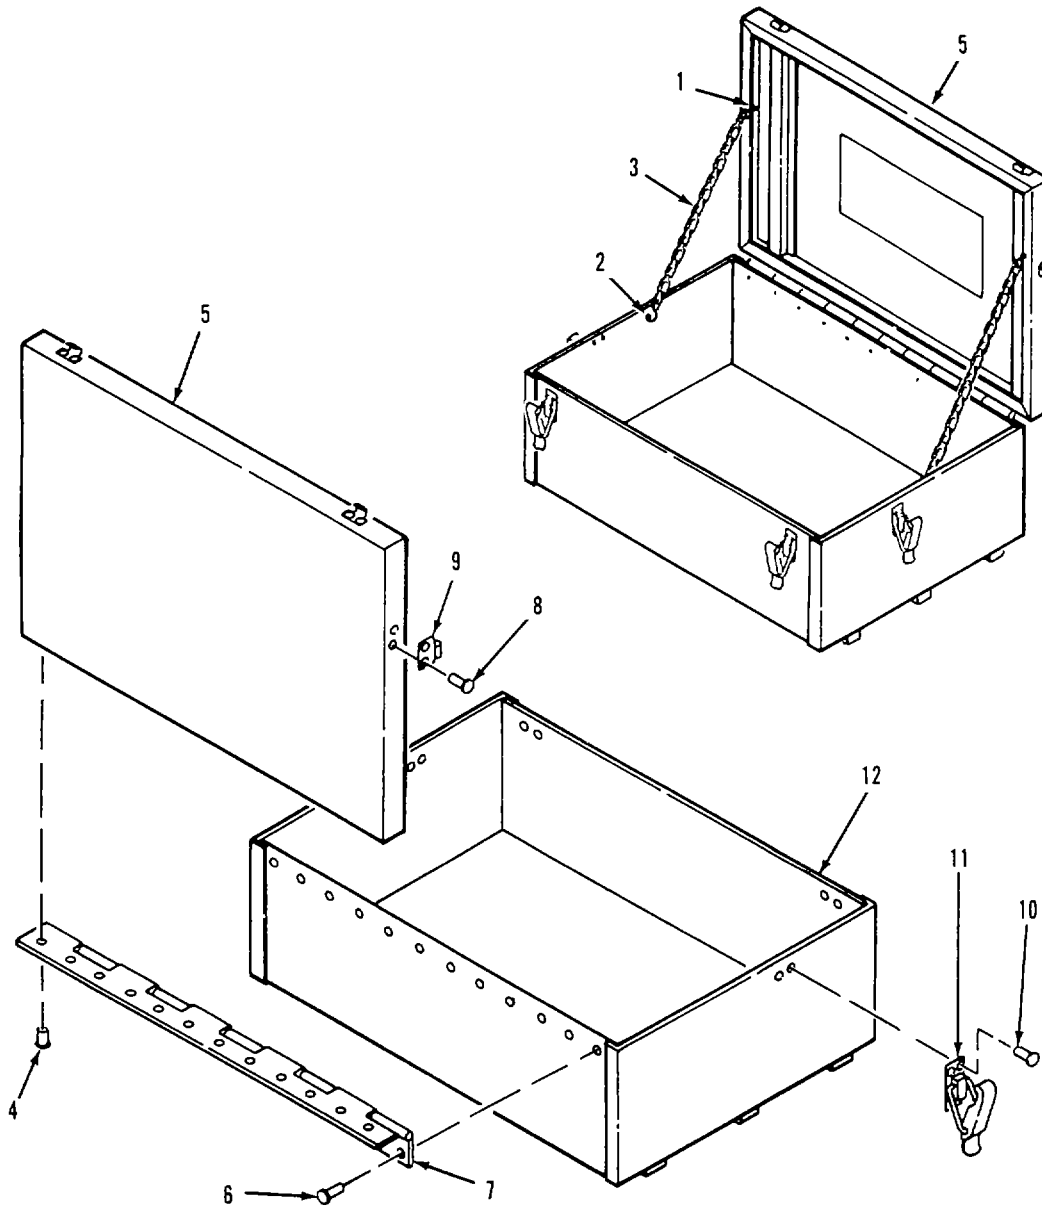

Figure 4-14. Storage Chest Assembly.
e. Assembly. Refer to figure 4-14.